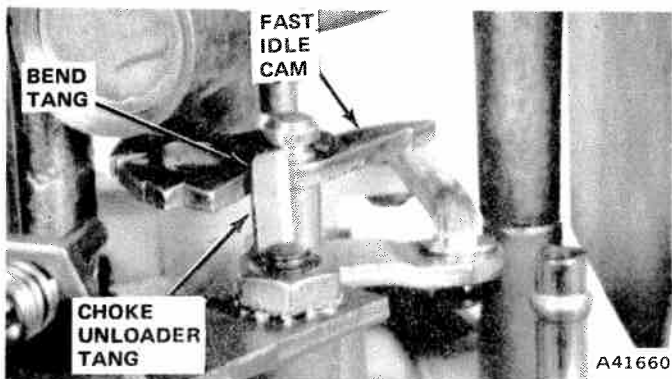

Fig. 4-51 Unloader Adjustment
(1) Hold throttle fully open and apply pressure on the choke valve toward the close position.
(2) Measure the clearance between the lower edge of choke valve and air horn wall. Refer to Carburetor Service Specifications for correct setting.
(3) Adjust by bending the unloader tang which contacts the fast idle cam, as shown in figure 4-51. **Bend toward the cam to increase the clearance and away from the cam to decrease the clearance.**